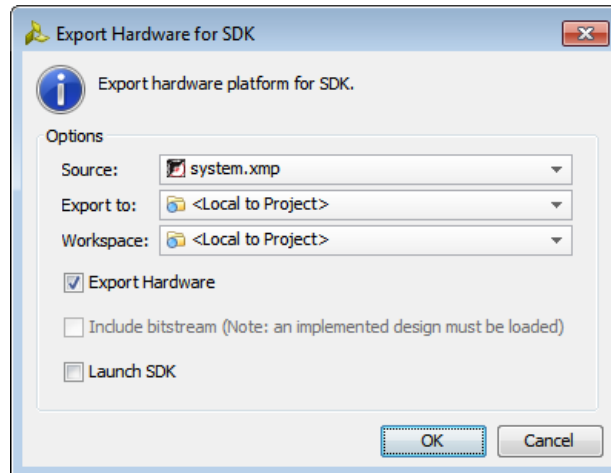

Figure 3-26: Export Hardware for SDK Dialog Box
2. In the Export Hardware for SDK dialog box (Figure 3-26), specify the following options, and click **OK**.